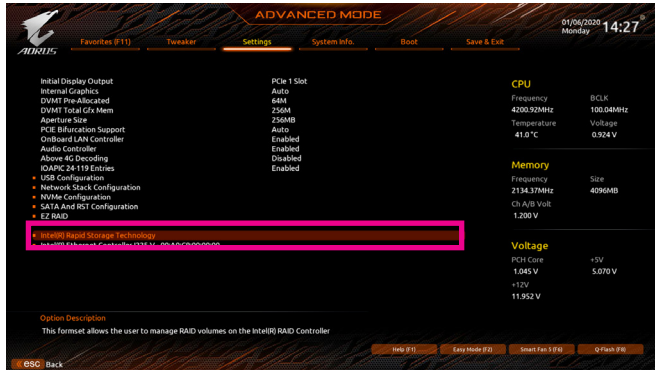

Figure 7
After the system reboot, enter BIOS Setup again. Then enter the **Settings**/IO Ports/**Intel(R) Rapid Storage Technology** sub-menu (Figure 7).